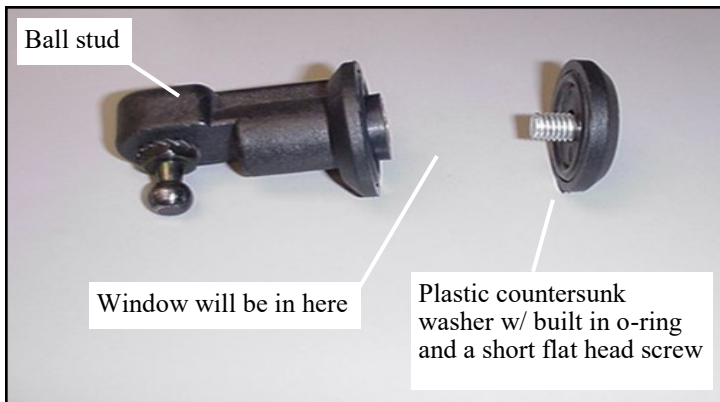
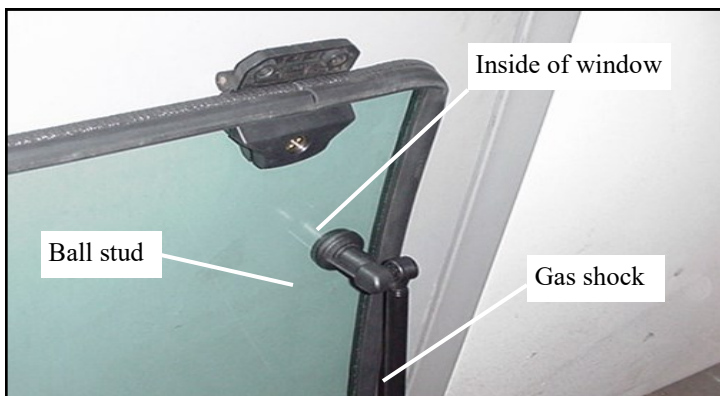

Fig. 8.1 Loose ball stud components
Fig. 8.1.1 Ball stud assembly view
- 8.1 See fig. 8.1. Install two (2) ball studs to the inner curved surface of the window (Note: the Phillips head portion of the screw is to be on the outside of the window.) The base of the ball stud goes against the inner surface of the window, with the boss sitting inside the window hole. Next, the plastic countersunk washer goes on the outside window surface. Bolt these components together, making sure that the ball portion of the ball stud is facing the outside edge of the window as shown in fig. 8.1.1 (so that the gas shocks will be as close to the edge of the window as possible.)